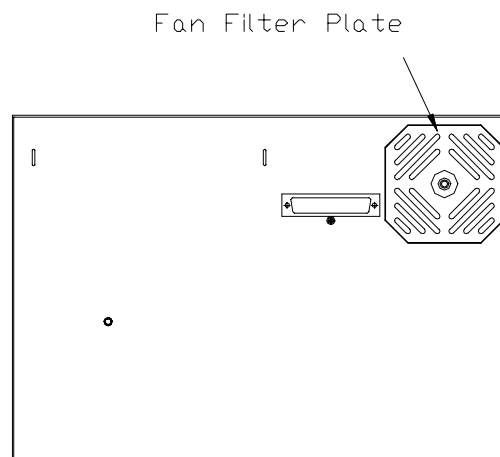

Figure 6. Filter Element Location
2. Fit the disk drive housing into the two locating slots on the Touch Display rear panel (refer to Figure 6).